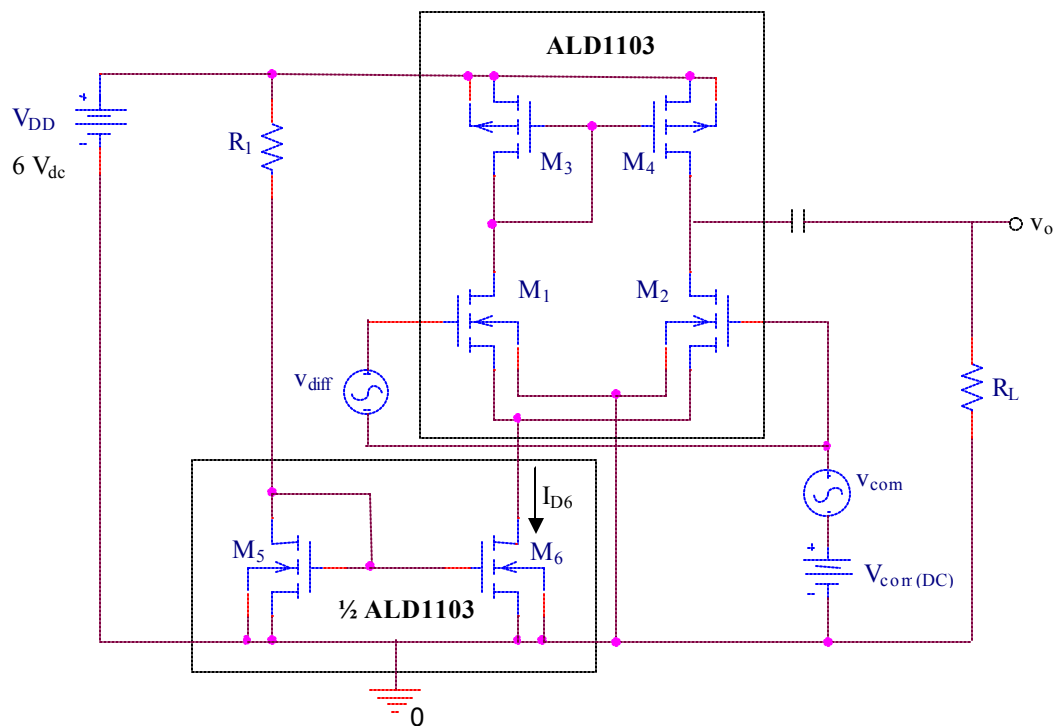

Figure 1. MOSFET Actively Loaded Differential Amplifier
The intrinsic stage gain A_v for an active loaded amplifier can be represented as $A_v = G_m R_o$, where G_m is the stage transconductance and R_o is the stage output resistance. A differential amplifier with active load, such as the one in Figure 1, is configured to accept a differential input signal and provide a single-ended output signal. **Note that V_{com} is a DC source, whereas v_{diff} and v_{com} are small-signal sources. In this lab exercise, either v_{diff} or v_{com} will be applied for a given measurement, but not both simultaneously.**
- **Calculate** the expected intrinsic (let $R_L \rightarrow \infty$) small signal differential gain for the amplifier in Figure 1, where $I_{D6} = 4 \text{ mA}$. The data sheet for the ALD1103 gives the output conductance at a bias point of $I_D = 10 \text{ mA}$ as $200 \mu\text{S}$ (μmhos) for the NMOS device and $500 \mu\text{S}$ (μmhos) for the PMOS device. These values can be used to determine r_{o2} and r_{o4} , as was done in Lab #4.
- **Develop** an expression for the CMRR of the amplifier. **Calculate** the expected common mode gain v_o/v_{com} and CMRR for the circuit in Figure 1.
- 7) Modify the circuit and measure the common mode voltage gain of the amplifier at a frequency of 100 Hz and at 100 kHz. (An easy way to measure common mode gain is to superimpose a large ac signal like 1 V_(pp) on the DC offset V_{com} . (Refer to Figure 1, and let $v_{diff} = 0$.) Calculate the CMRR at 100 Hz.